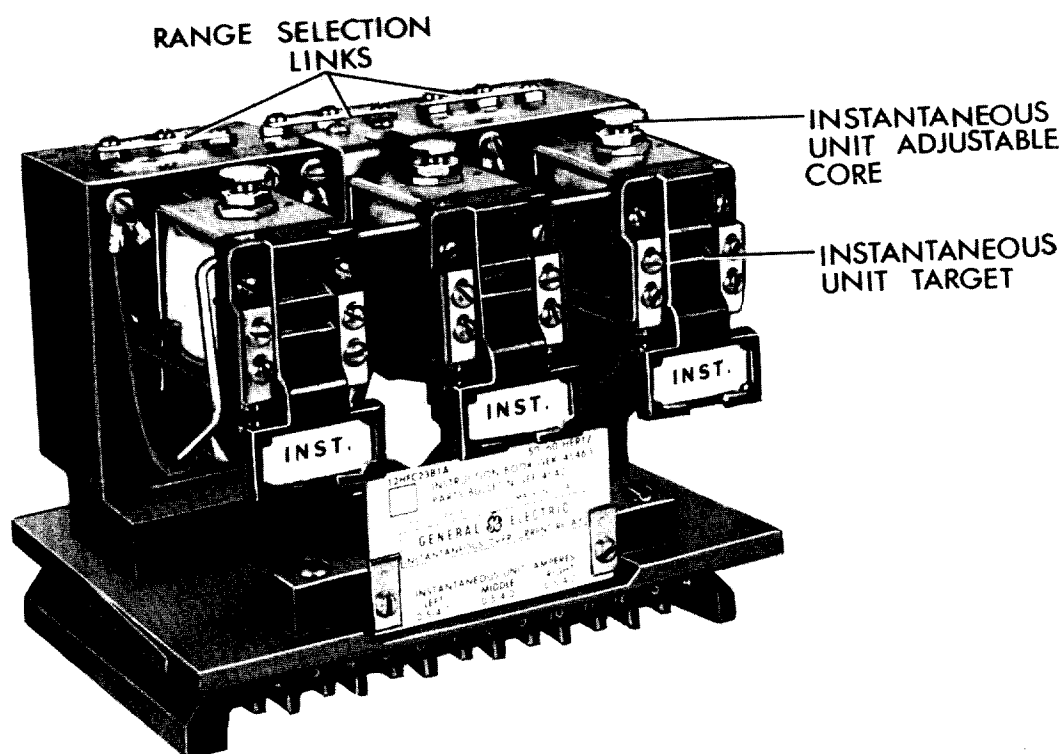

Figure 1 (8043212) Type HFC23B Relay, Removed From Case, Front View
The instantaneous units have a tapped coil for operation on either one or two ranges, HIGH (H) or LOW (L). Selection of the HIGH or LOW range is determined by the position of the link located on the top of the support structure (see Figure 1 and Table 2).
The instantaneous units have either a 25 to 1 or an 8 to 1 range with a tapped coil. There are high and low ranges, selected by means of links located on the top of the support structure (see Figure 1). The time current curve for the instantaneous units is shown in Figure 8.
The instantaneous unit has an adjustable core located at the top of the unit as shown in Figure 1. To set the instantaneous unit to a desired pickup, loosen the locknut and adjust the core. Turning the core clockwise decreases the pickup; turning it counterclockwise increases the pickup. Bring up the current slowly until the unit picks up. It may be necessary to repeat this operation until the desired pickup value is obtained. Once the desired pickup value is reached, tighten the locknut.
1. Select the desired range by setting the link in the proper position (see Figure 1 and the internal connections diagram). Always select the higher range whenever possible, since it has a higher continuous rating.